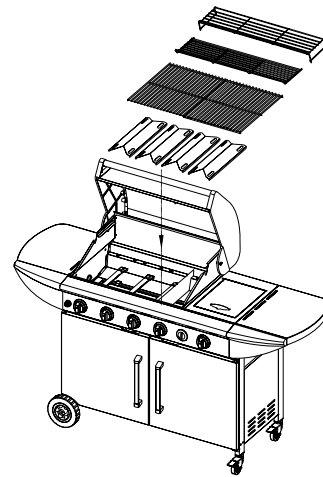

Figure 20
1. Evenly space cooking grids on the ledge above heat diffuser . (Fig.20)
2. Slide the 1st(bottom) warming rack into the brackets in the grill bowl side panels, and insert the legs of the 2nd(top) warming rack into the holes in the tops of the grill bowl side panels. (Fig.20)